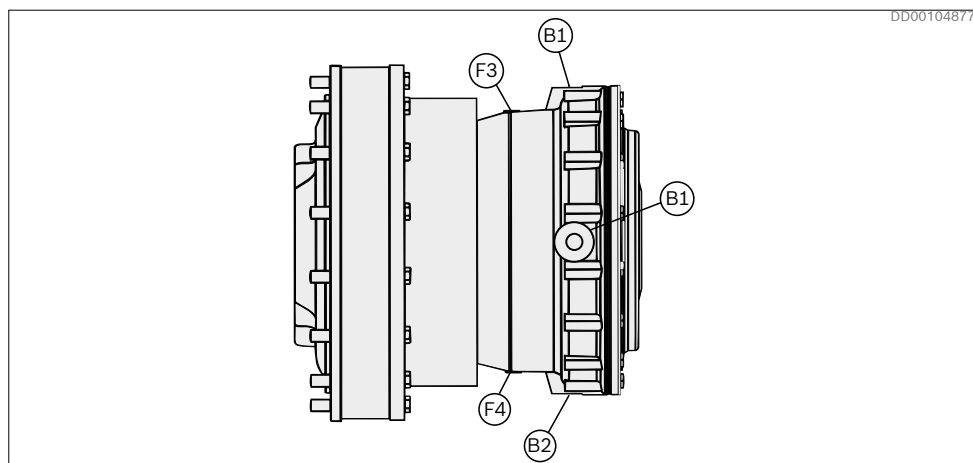

Fig. 47: Port connections at MDA 5, MDA 7 and MDA 10
6. Apply grease to hold the two o-rings in place in the grooves on the brake housing (305), turn the brake housing (305) so that the o-rings are sealing around the F3 and F4 ports of the motor. Mount the brake housing (305).
7. Oil the screws (43) and assemble with washers, torque 136 Nm (100 lb·ft).
8. Place the correct spacer (3xx) inside the brake housing (305). See *Table 18*.
10. Grease the piston seal and guide strip with multi-purpose grease without solid additives. Mount the brake piston (313) in the brake housing (305), tap it in place with a plastic hammer. Remove one of the plugs in B1-B4 connection to evacuate the air during assembly see *Fig. 47*.
11. Apply MoS2 Molykote long term 2 or equivalent on the belleville springs (315), the inner machined surface of the brake piston (313) and brake cover (314). Make sure no grease is transferred on to the contact surface between the brake housing (305) and brake cover (314). Put the belleville springs (315) on the centre shaft of the brake cover (314), the springs should be mounted against each other on the inner diameter.
12. Apply a thin layer of corrosion protection, Shell Ensis or similar, on the outer machined area of the brake piston (313).
13. Apply a string of liquid sealing compound on the contact surface between the brake housing (305) and brake cover (314). The sealing compound should be applied in a complete circle on the inside of the threaded holes of the brake housing (305).
14. Mount the brake cover (314) on the brake housing (305), oil the screws (40) and assemble with washers, tighten 4 bolts evenly in a cross pattern by hand, maintain brake cover (314) parallel against the brake housing (305). Tighten the remaining bolts by hand until they are flush against the brake cover (314). Start tighten all screws in a circular pattern not more than one turn at a time until the brake cover (314) is tight against the brake housing (305), torque the bolts to 114 Nm (84 lb·ft).